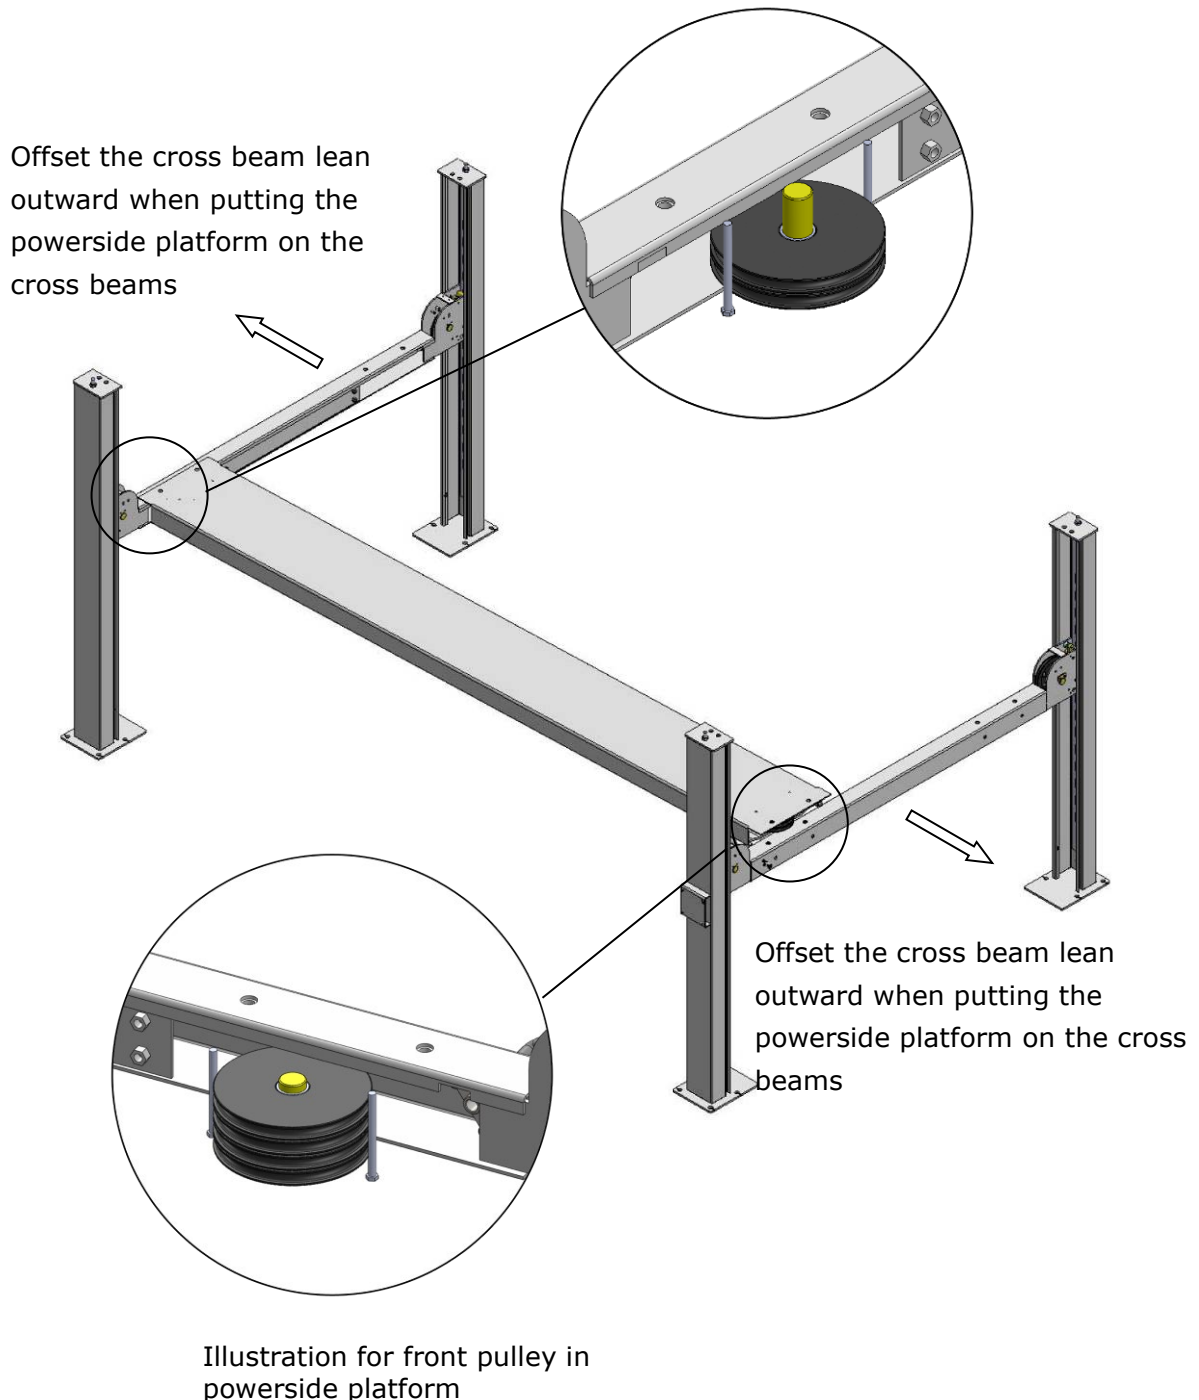

Fig. 16
1. Install the power side platform on the cross beams by a fork lift or manual, offset the cross beams to the outside till the pulleys of both platforms can rest into the cross beams' slots (**See Fig.16**), Install the power side platform and screw up the bolts.